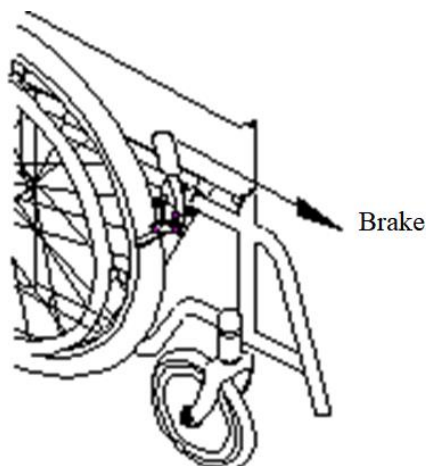

Figure 3
- There are brakes on both sides of the seat. Be sure to use the brakes when parking the wheelchair. (See figure 3)